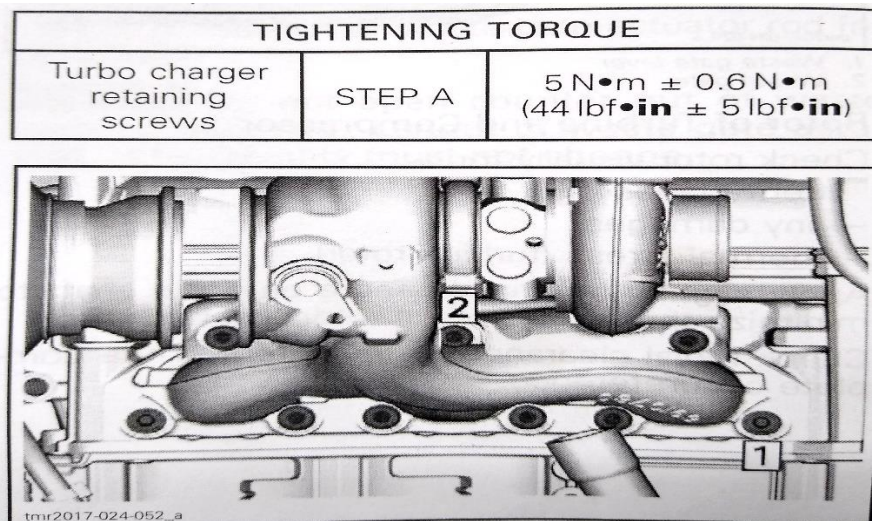

Figure 2
**Step 4:** Torque (2) of the retaining screws to 44 in-lb (about 4 ft-lb), following the order shown in Figure 2.